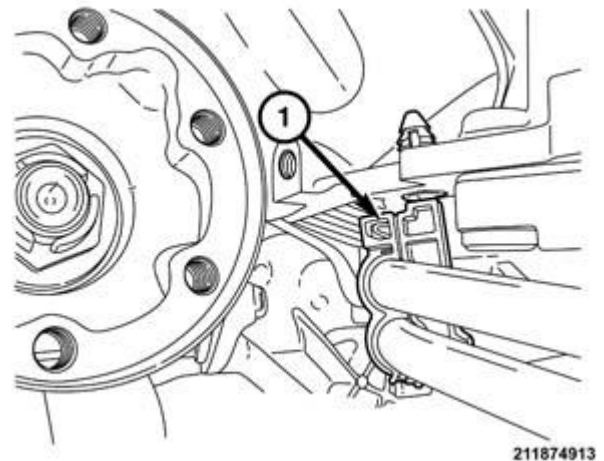

Figure 30 – Front Cooler Line Clip
69. Disconnect left front cooler line clip (1) (Figure 30).
17. Connect the left front cooler line clip (1) (Figure 30).